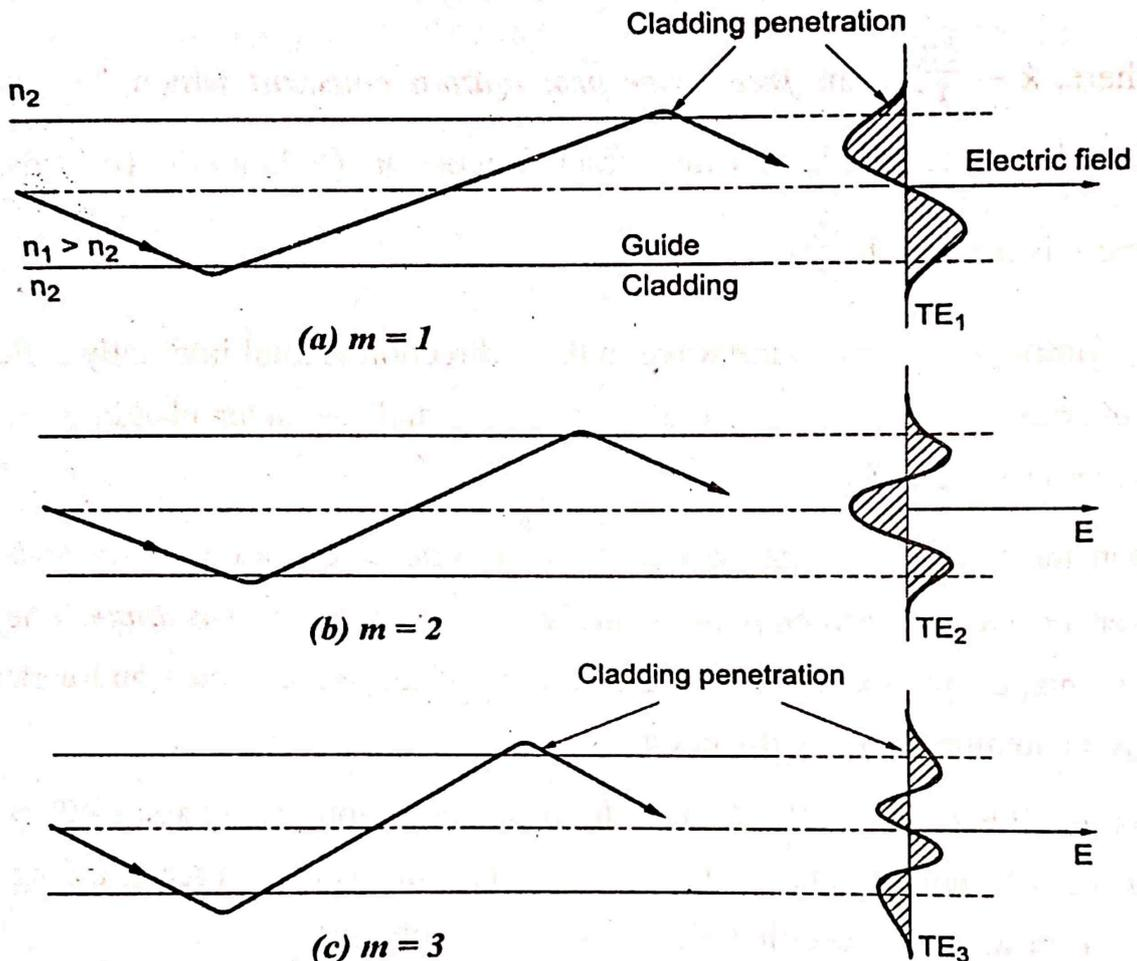

Fig 2.3 Illustrating transverse electric modes TE_m ($m = 1, 2, 3$) along with ray paths showing penetration in the cladding region.
- ♣ A few higher order modes with the electric field distributions in the transverse direction (x -direction) for different modes corresponding to $m = 1, 2, 3$ are shown in Fig 2.3. The penetrating of the field in the cladding region increases with the order of the mode.